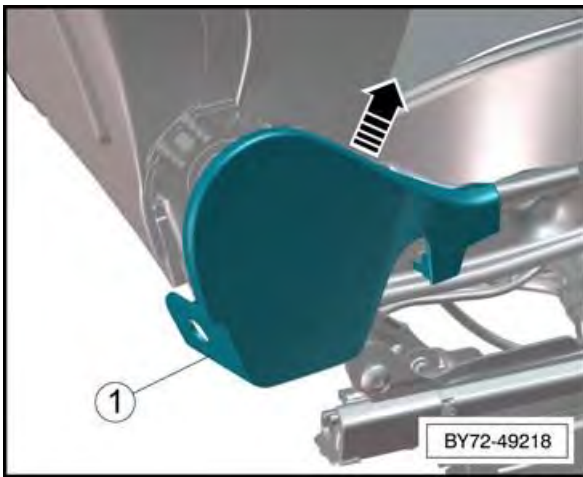

Figure 23
- Pull the valance upwards—arrow- and remove (see Figure 23)